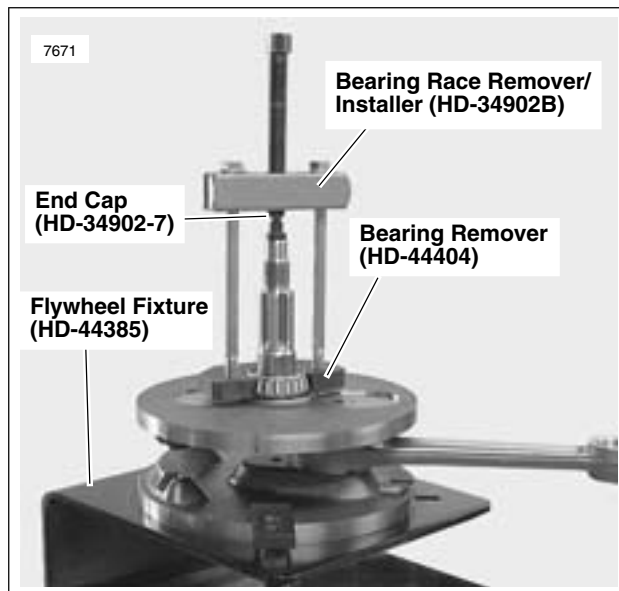

Figure 3-118. Removing Sprocket Shaft Roller Bearing
- See Figure 3-118. Place flywheel assembly in FLYWHEEL SUPPORT FIXTURE (Part No. HD-44385). Pull sprocket shaft bearing with SPROCKET SHAFT INNER